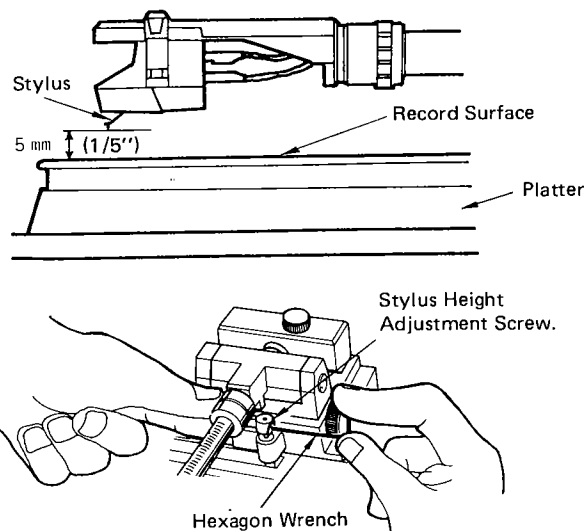

Fig. 8
- 2) The height obtained at this point will be the stylus height. The optimum height should be 5 mm (1/5") if it is other than this the Stylus Height Adjustment must be made using a hexagon wrench.* See Fig. 8.